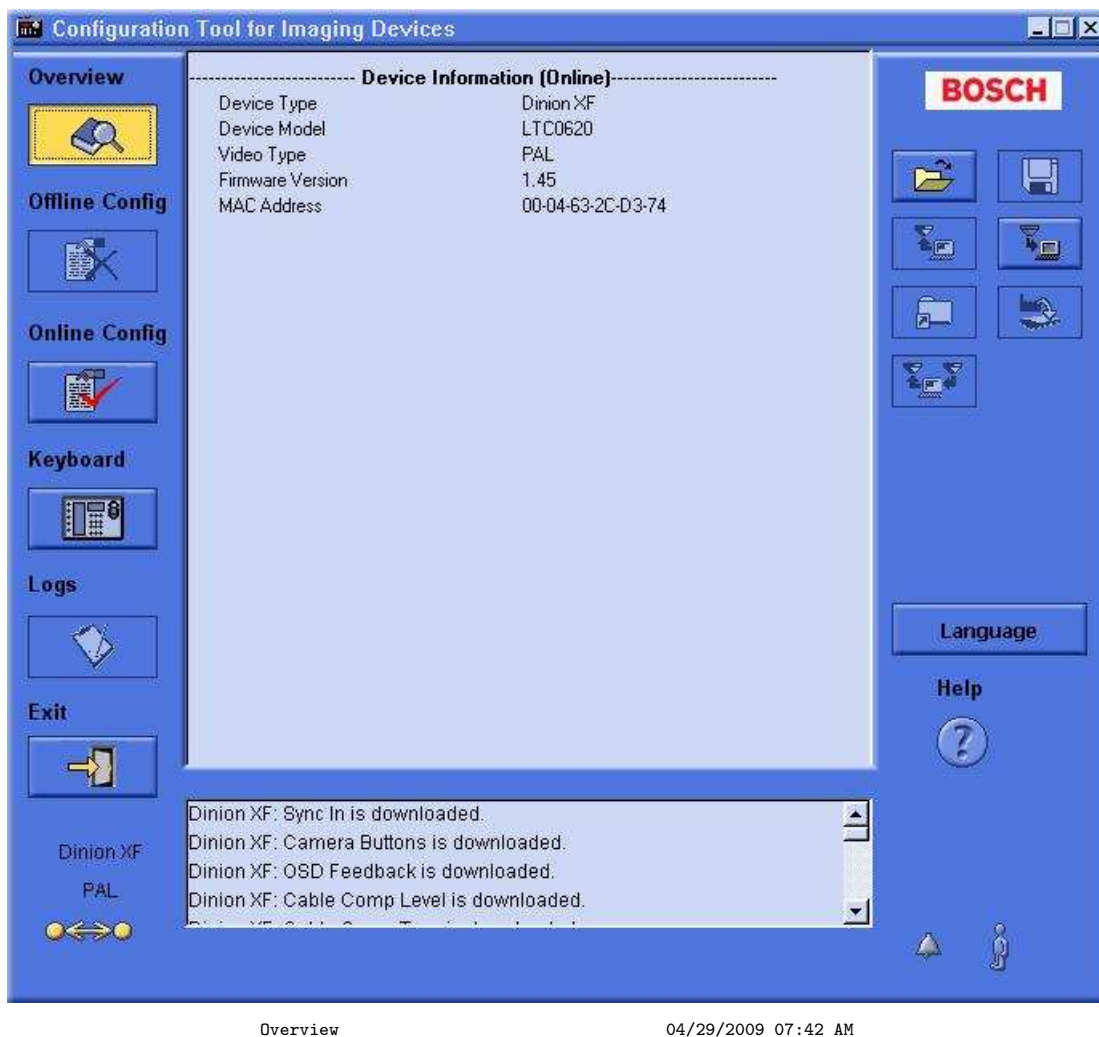

Figure 25: CTFID, Overview Display
3. The software used is Bosch’s “Configuration Tool for Imaging Devices” (**CTFID**) Rev 3.05.0002. The user manual is 57 pages long. (Two screen shots are in Figure 25, page 28 and Figure 26, page 29.)